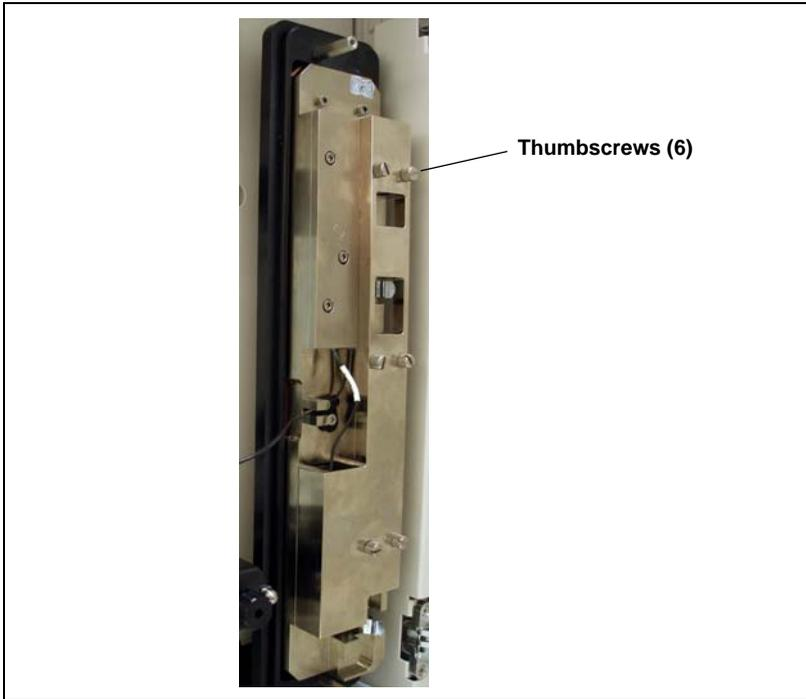

Figure 5-16. Dionex ICS-1100 Column Heater Cover Removed
- c. Unscrew the six thumbscrews on the top metal plate (see Figure 5-16) and remove the plate.